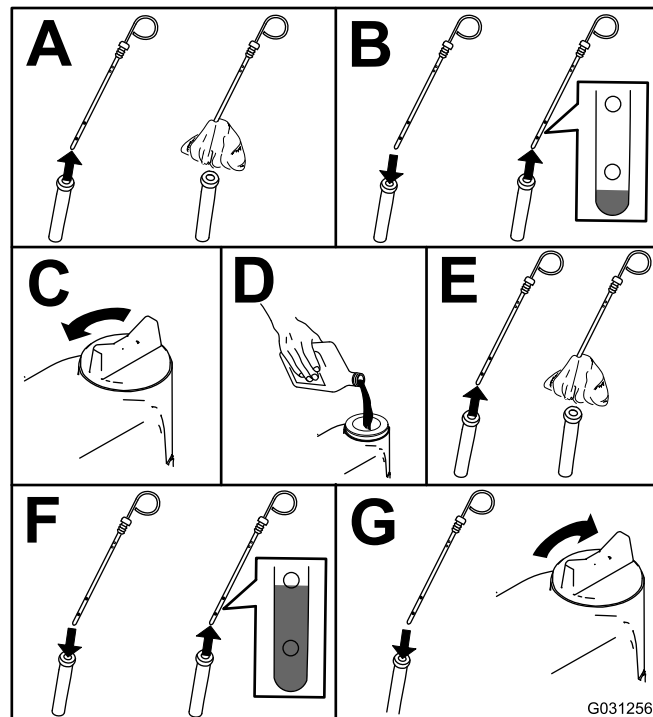

Figure 48
2. Check the engine-oil level; refer to Figure 48.